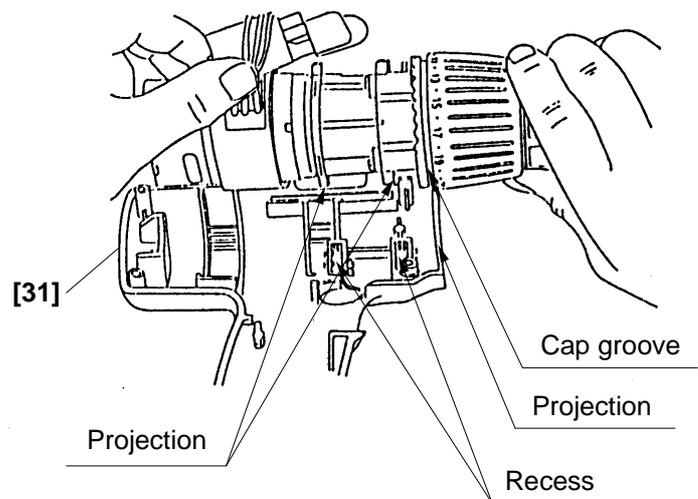

Fig. 18
Note that the projections on the Front Case [9] and the Motor Spacer [25] are engaged in the recess in Housing (A) [31] and the projection on Housing (A) [31] is engaged in the groove in the Cap [4]. (See Fig. 18)